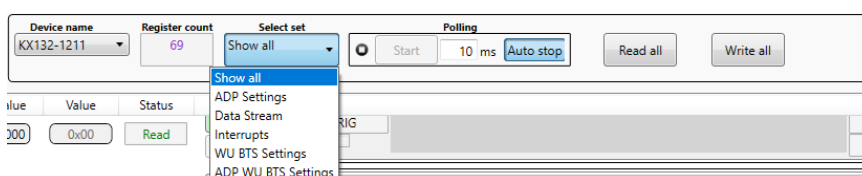

Figure 37 Register set pull-down menu
- “Select set” pull down menu contains list of subsets of register space for the currently selected product. (Figure 37)